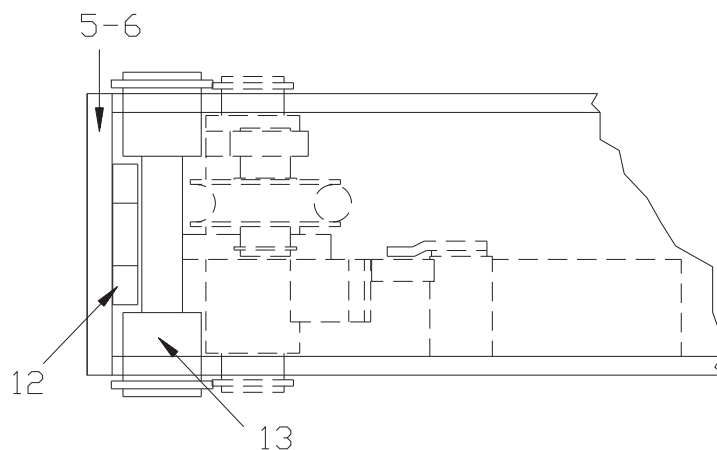

Fig.43 Housing for fitting safety rod
Fit the safety rods (12) from the top of the posts, inserting them between the rear face of the cross-pieces (5-6) and the guide pins (13) as shown in figure 43.